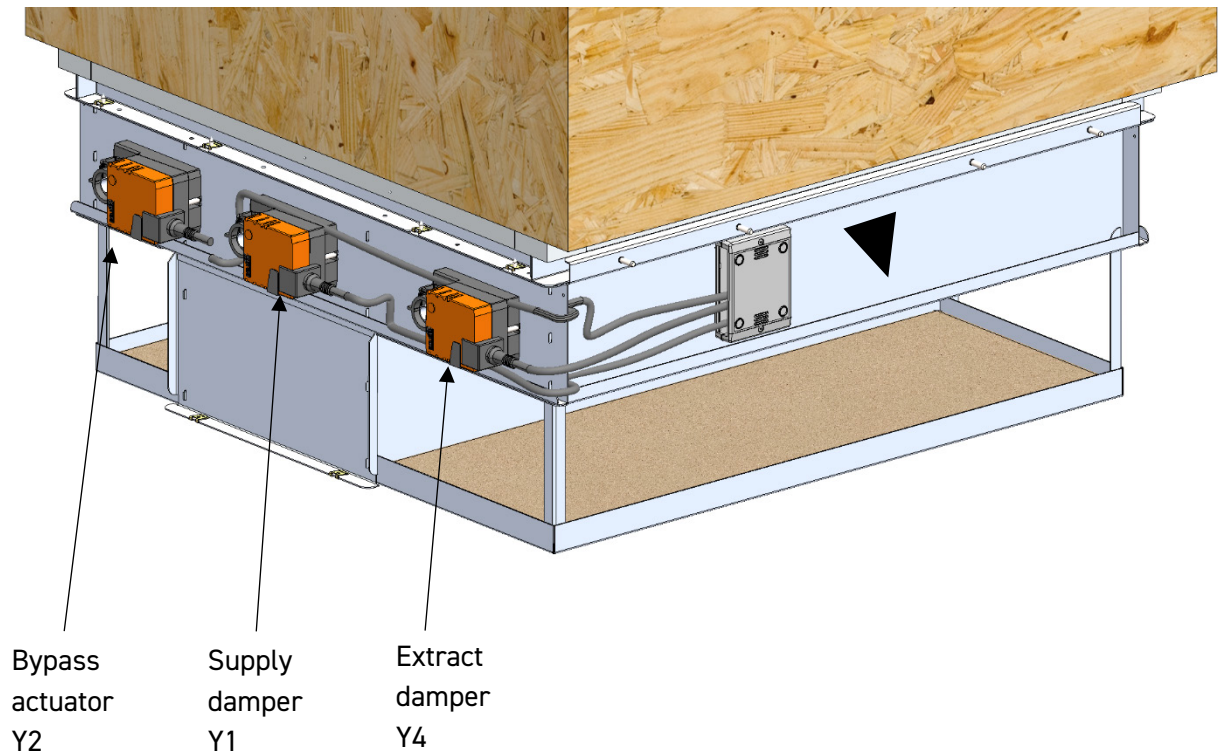

Figure 53 – Actuator locations.
5. The 3 internal actuators will be prewired to a junction box on the end of the internal diffuser. The junction box will need to be wired to a 24V DC power supply – *see figure 53*.